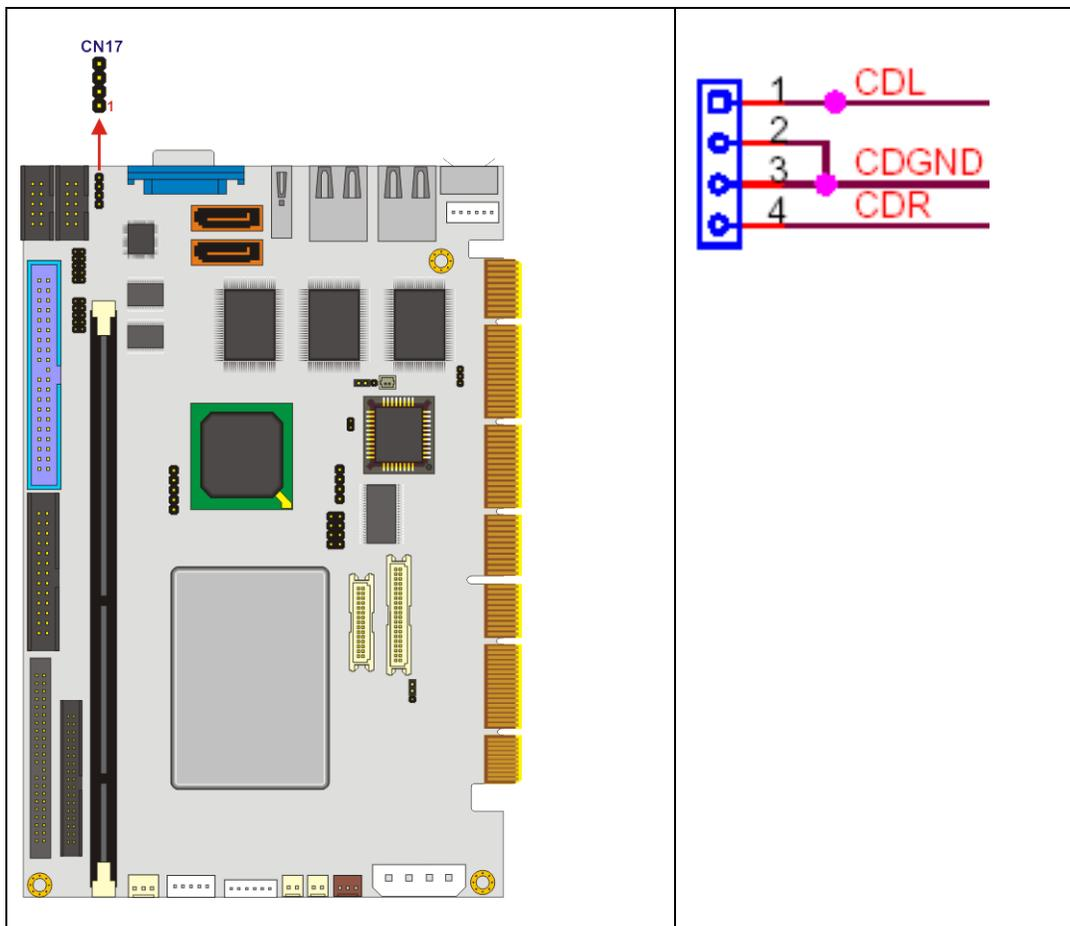

Figure 3-2: Audio CD In Connector Location
- CN Location:** See **Figure 3-2**